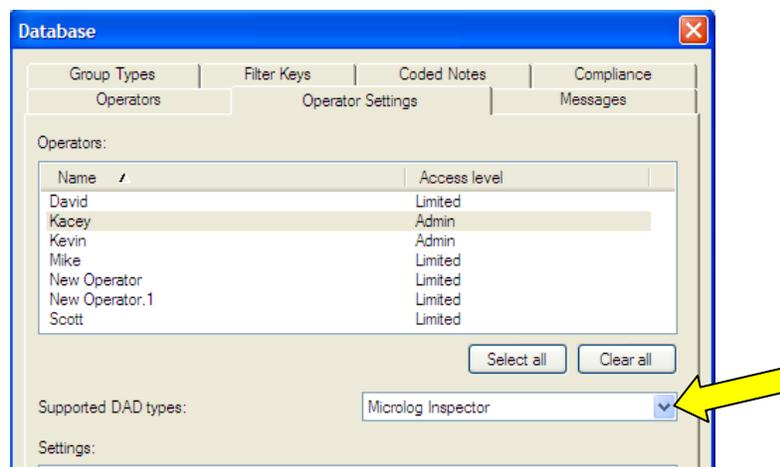

Figure 3. Select operator and DAD type
3. Next, select the operator from within the **Operators** list, and choose **Microlog Inspector** for the **Supported DAD types**. [Figure 3]